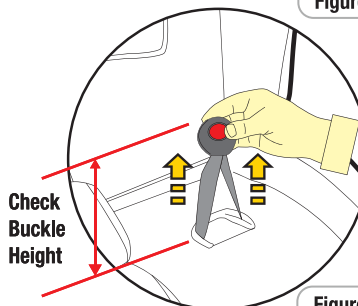

Figure 4
- Step 6:** Turn seat back to upright position & recheck buckle height (refer Figure 4).